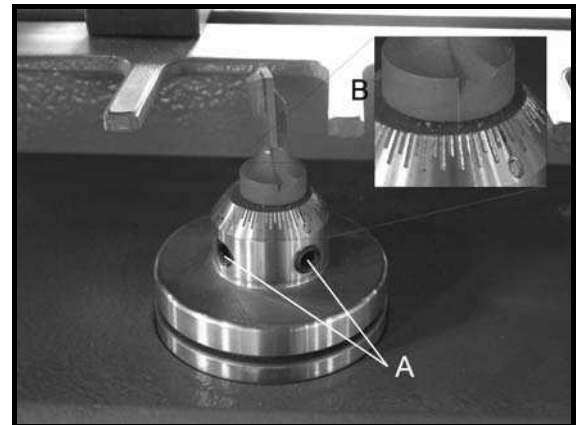

Figure 21
3. You will notice the cutter, shown in Figure 21, is slightly off center of the spindle. The spindle is eccentric and allows the cutter to be turned to a different position on the spindle.
4. Loosen both set screws on the spindle (Figure 21 by turning them counterclockwise with a 4mm hex wrench.
1. To replace the cutter, loosen both set screws (Figure 21) and carefully pull up on the cutter until it is free from the spindle.